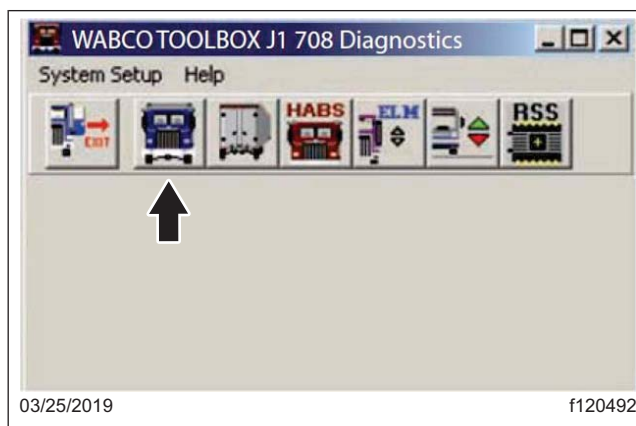

Fig. 2, WABCO TOOLBOX
2. Launch the Meritor WABCO TOOLBOX® diagnostic software and select the blue truck. See Fig. 2.